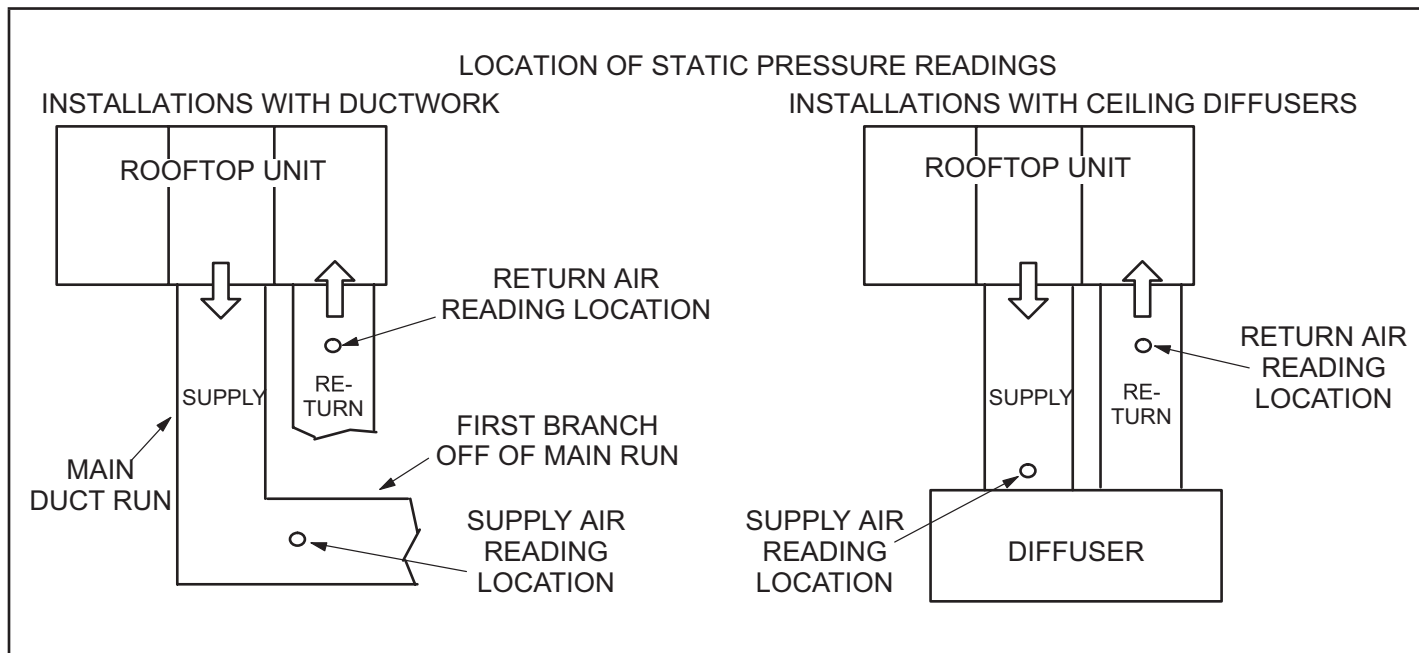

FIGURE 23
- 2 - With all access panels in place, measure static pressure external to unit (from supply to return). Blower performance data is based on static pressure readings taken in locations shown in FIGURE 23.